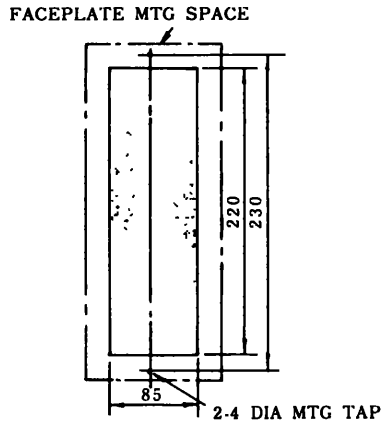

Fig. 16.8 Drilling Plan for Built-in Type
The cutout dimensions for flush-mounting the VS Operator on a panel is given in Fig. 16.8. Before mounting, relocate the external terminal block from the interior of the case to area (A) in Fig. 16.9 (c). The case is not used when mounting.